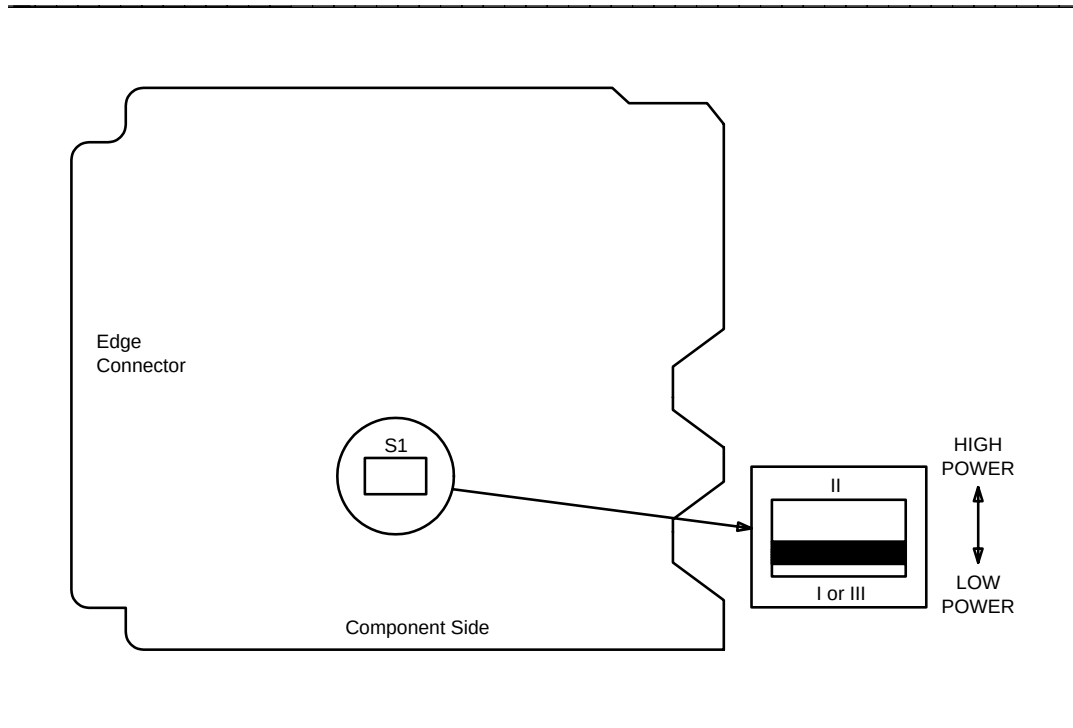

Figure 1. 21G/21G-U OLIU Option Settings
2. Refer to Figure 1 and set the option switch on the **21G/21G-U OLIU** to the **LOW POWER** position, if not already performed.